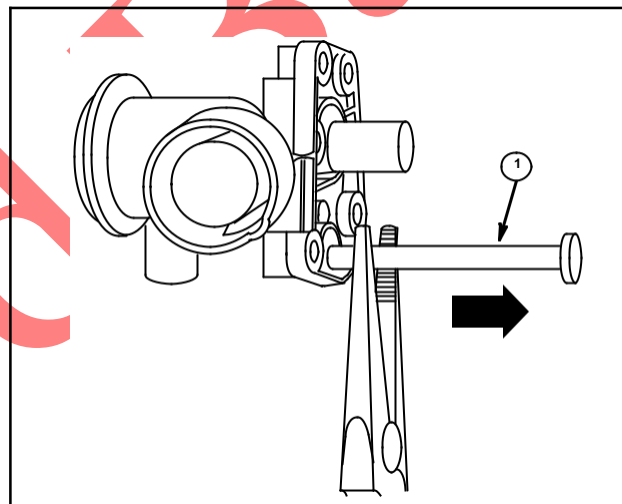

Fig. 5
Remove Fuel Pick-Up Tube (Fig. 5)
Pick-up tube (1) on Pulsa-Prime carburetor is the snap-in design. Pipe requires considerable force to snap out, Fig. 5.